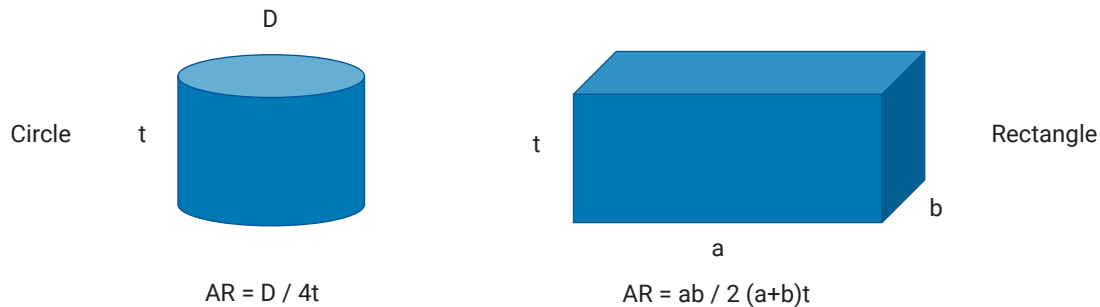

Figure 4: Area ratio calculation
A guideline for the stencil opening when soldering HD discrete LEDs is that the area ratio (AR), the stencil aperture opening divided by the area of the aperture side walls, should be 0.66 or greater. Figure 4 shows the area ratio calculation.